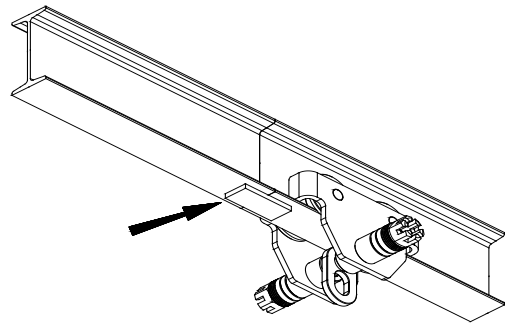

Figure 4
- If a face plated is welded on the lower section of the edge of the profile, this should not be too thick, or the trolley could jam (see figure 4).